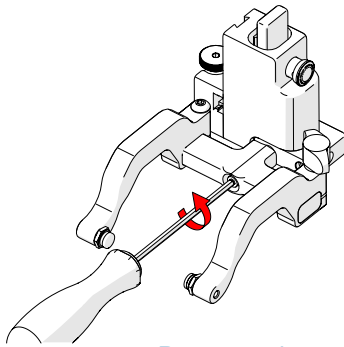

Fig. 127 - Remove yoke
- 11.** Using the supplied 3 mm driver, unscrew the yoke (*Fig. 127*).
18. Remove the yoke using the supplied 3 mm hex driver (Fig. 127).